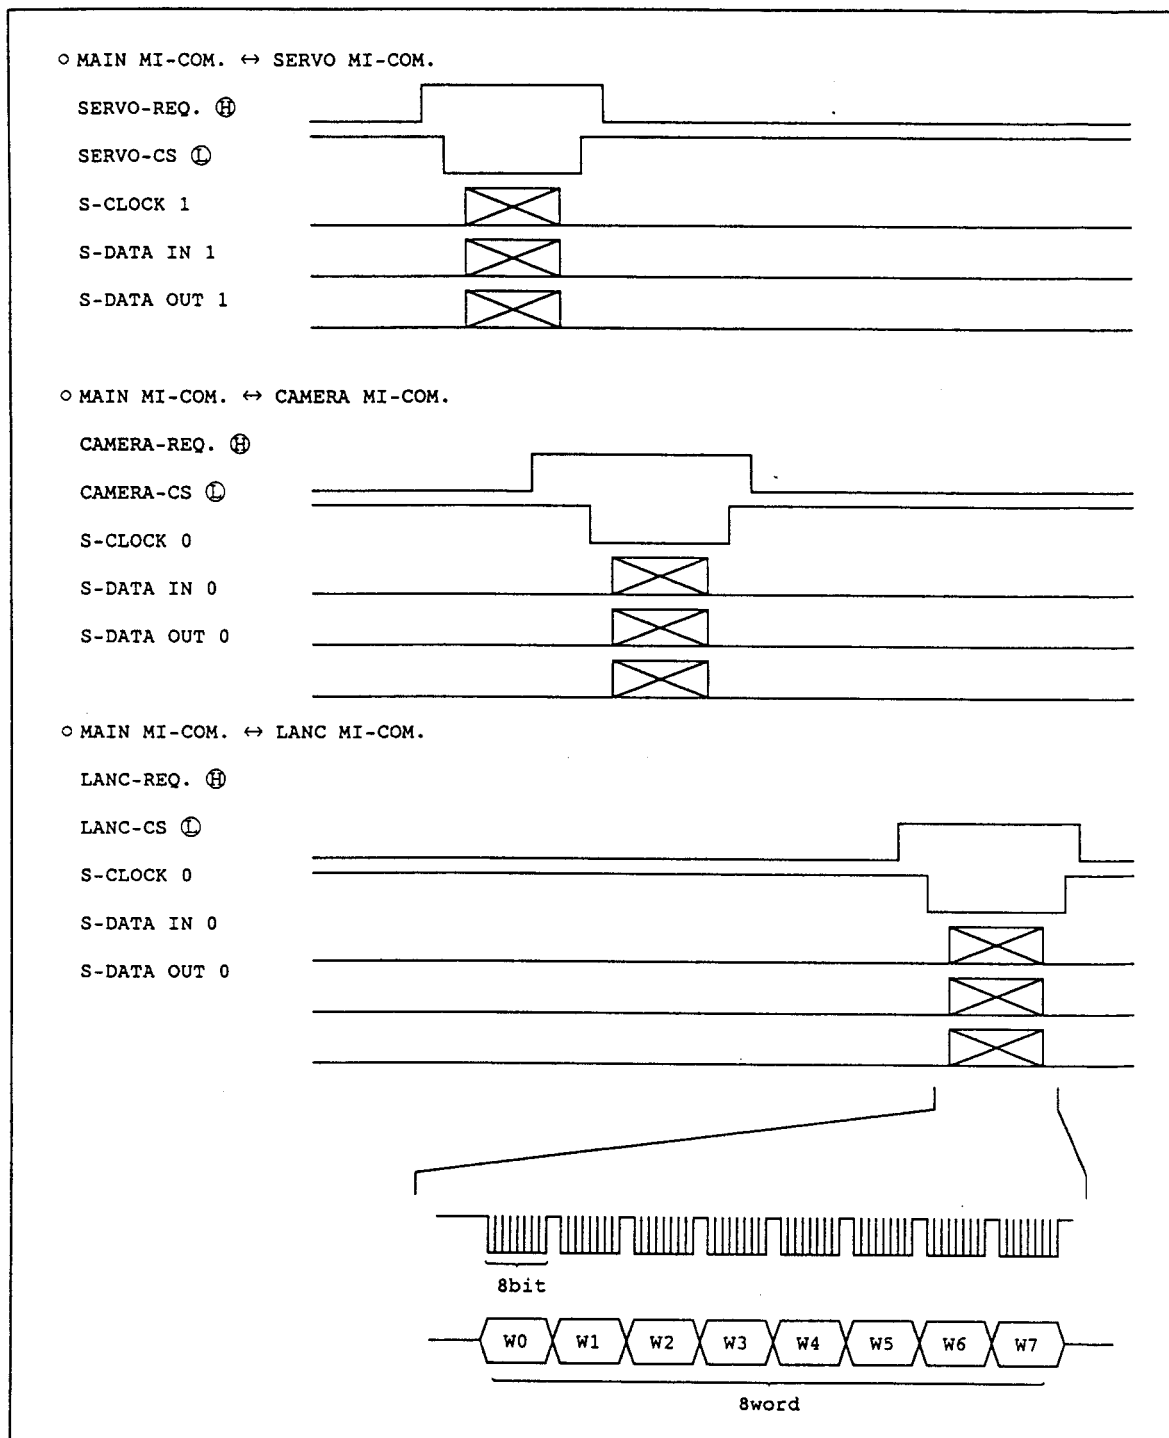
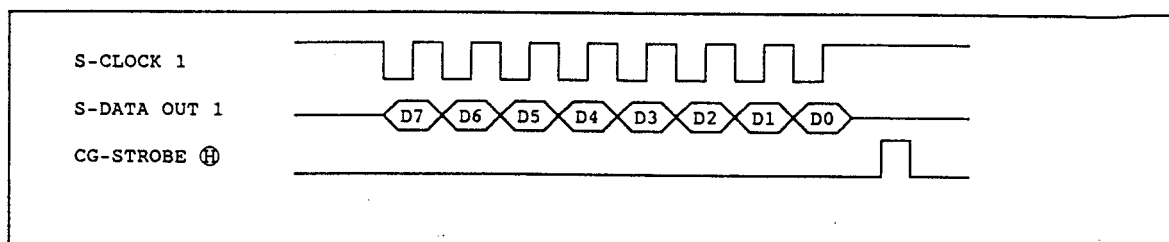

Figure I-26
Figure I-27
Figure I-26 shows the timing of the serial communications between IC 608 (MAIN MI-COM) and IC 051 (SERVO MI-COM), IC 1403 (CAMERA MI-COM), and IC 609 (LANC MI-COM). IC 608 (MAIN MI-COM) senses the need for serial communications upon receiving a request signal from the other circuits and uses the chip select signal to turn ON the communication lines upon getting ready for serial communications. Serial communications is performed once at every 1 vertical period. Every 500 microseconds or so, IC 608 (MAIN MI-COM) checks whether no serial communication proceeds and, if so, sends appropriate data to IC 209 (CHAR.GEN.) with the timing shown in Figure I-27. IC 209 (CHAR.GEN.) will judge the data to be valid if it is followed by the CG-STROBE (H) signal. Serial communications is performed between IC 609 (LANC MI-COM) and IC 601 (QUARTZ) under the supervision of IC 609 with priority to those between IC 609 and IC 608 (MAIN MI-COM).